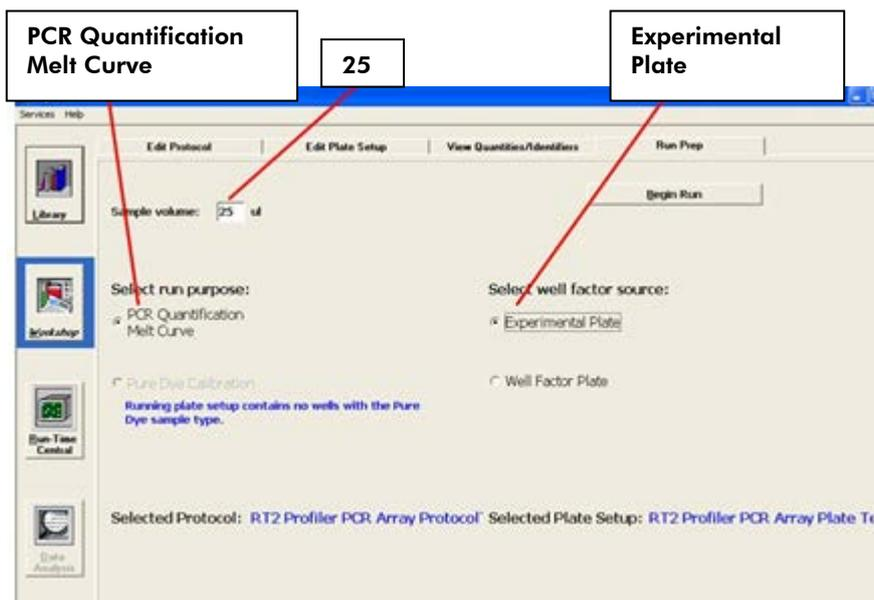

Figure 4. Plate setup — running plate.
9. In the Library module, click to open the View Protocol tab. Under Protocol Files, click to highlight and load the previously saved RT²Profiler™ PCR Array Protocol Template file. Then click to open the ViewPlate Setup tab; under Plate Setup Files, click to highlight and load the RT²Profiler™ PCR Array Plate Setup Template file. Click Run with Selected Protocol to initiate the run with the selected plate setup and indicated protocol. This will lead you to the Run Prep tab in the Workshop module (See Figure 4). Enter the reaction volume (25 µL) for the Sample volume. Select Experimental Plate under Select Well Factor Source. When ready, click on Begin Run. A Save dialog box will open. Enter a name for the optical data file (*.opd).